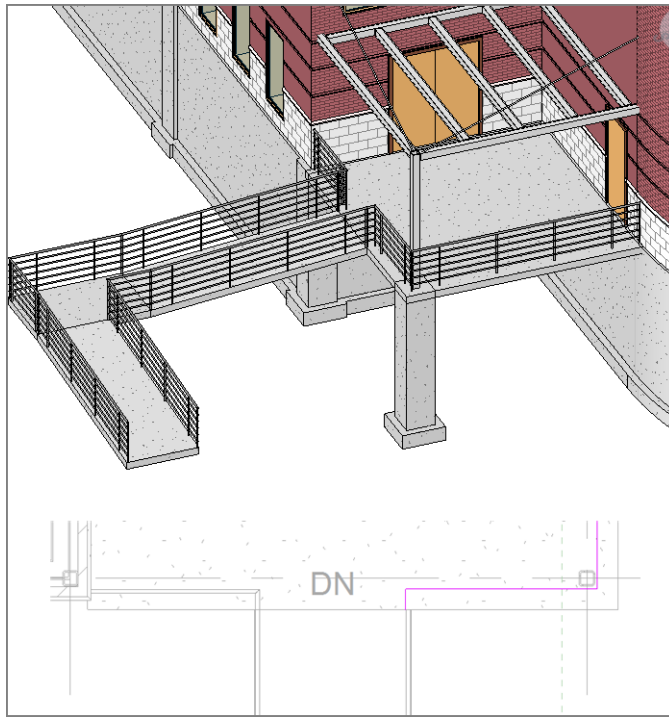

FIGURE 10.85: Adding the railing just as you've been doing this entire chapter
5. Draw a railing 8" (200mm) in from the slab edge, as shown in Figure 10.85.